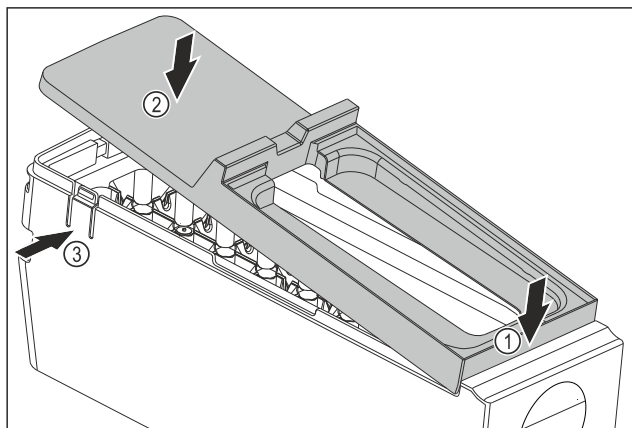

Fig. 168
- ▶ Installing the cover of the EasyTwist-Ice body: Fit the cover at the front. Fig. 168 (1)
- ▶ Lower the cover at the rear. Fig. 168 (2)
- ▶ The cover snaps audibly into place in both tabs Fig. 168 (3).